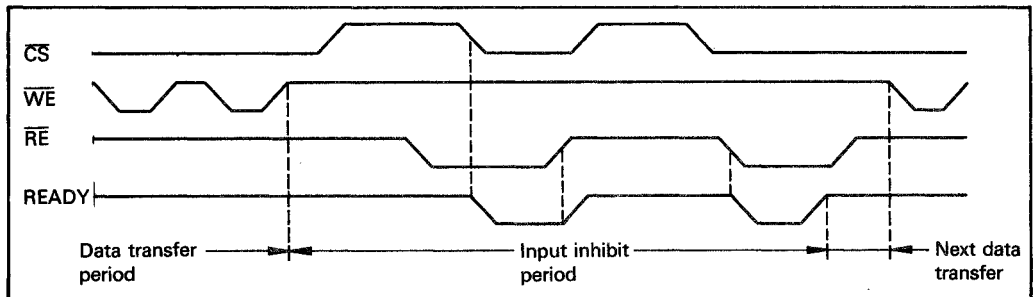

Figure 15. READY Output Timing (When It is Available by \overline{CS} and \overline{RE})
- READY is available by \overline{CS} and \overline{RE} (figure 15).